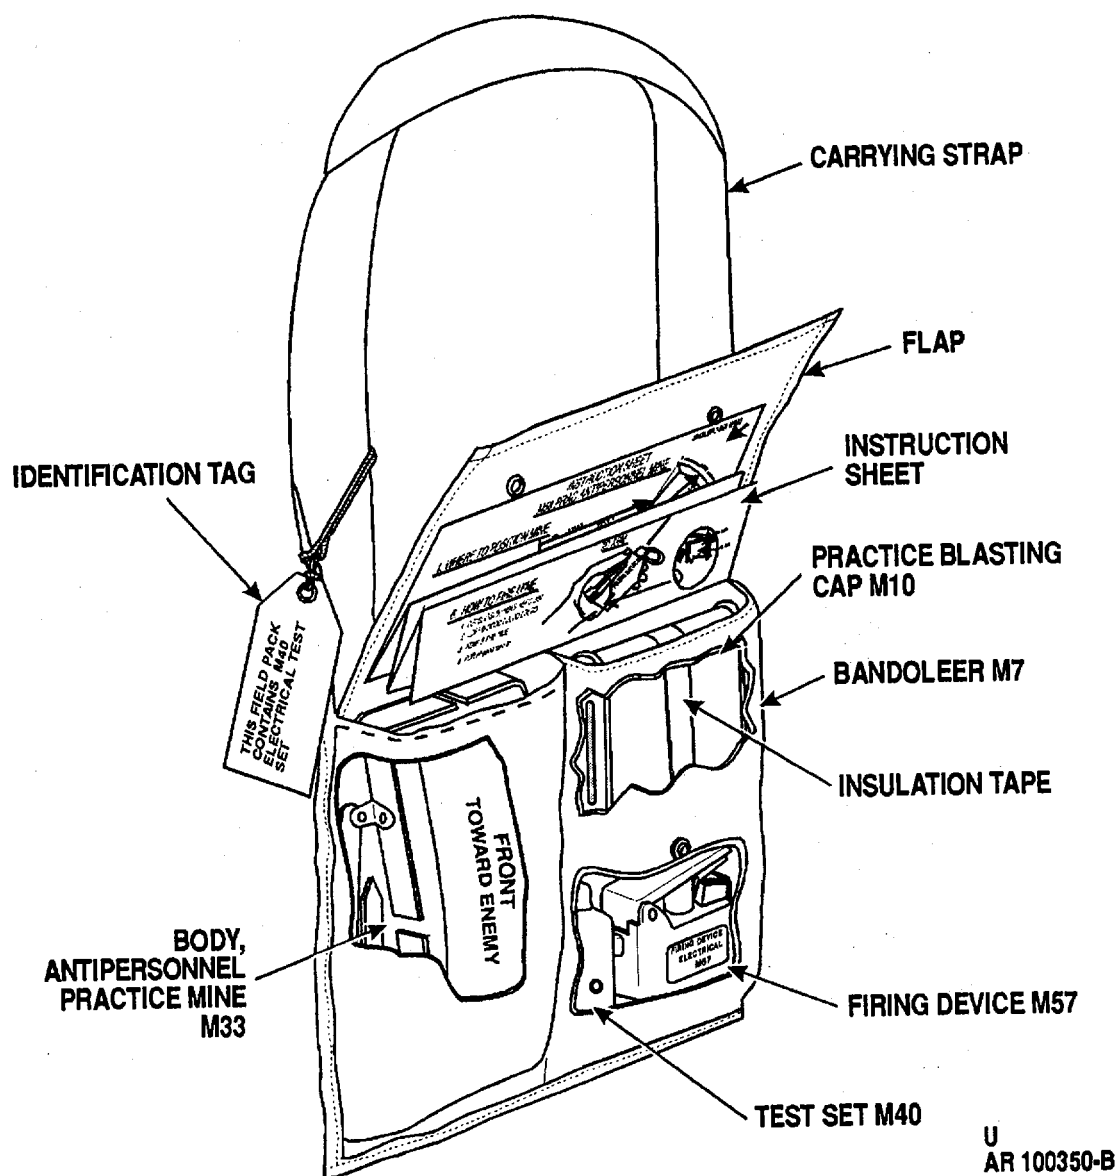

Figure 1-9. Mine, antipersonnel, practice, NM: M68.
a. Description. Figure 1-9 depicts the practice counterpart of mine M18A1. The mines are similar except that the inert loaded mine M33 body replaces the high explosive-loaded mine M18A1 body, and the empty practice blasting cap M10 replaces the loaded blasting cap M4 assembly. For additional information, see paragraph 1-7.